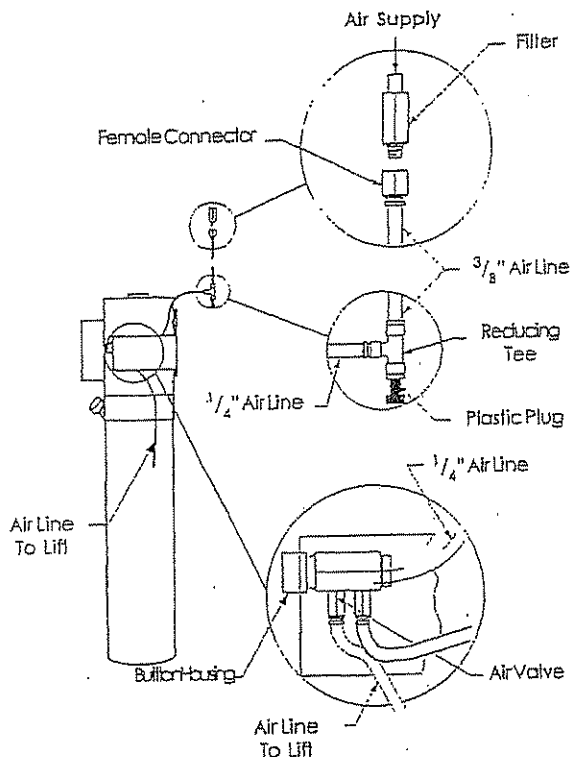

Fig. 22
- A. Connect air valve to Reducing Tee, Fig. 22. Cut provided 1/4" air line tubing with sharp blade to length as required. Tubing must be cut square with no burrs.
- B. Use Housing Collar to secure the Air Valve to the Air Valve Bracket, Fig. 22.
- E. Connect Reducing Tee to female connector, Fig. 22, using 3/8" air line tubing. Attach filter to female connector and connect into existing facility air supply. Make sure plastic plug is in bottom opening of Reducing Tee.